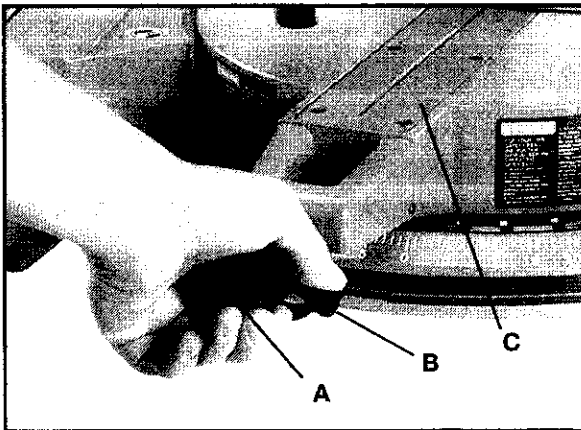

Fig. 6
1. Rotate locking knob (A) Fig. 6, counter-clockwise as far as it will go to unlock. Depress lever (B) and rotate table (C) to the 0 degree straight cut-off position, release lever (B) and tighten locking knob (A).